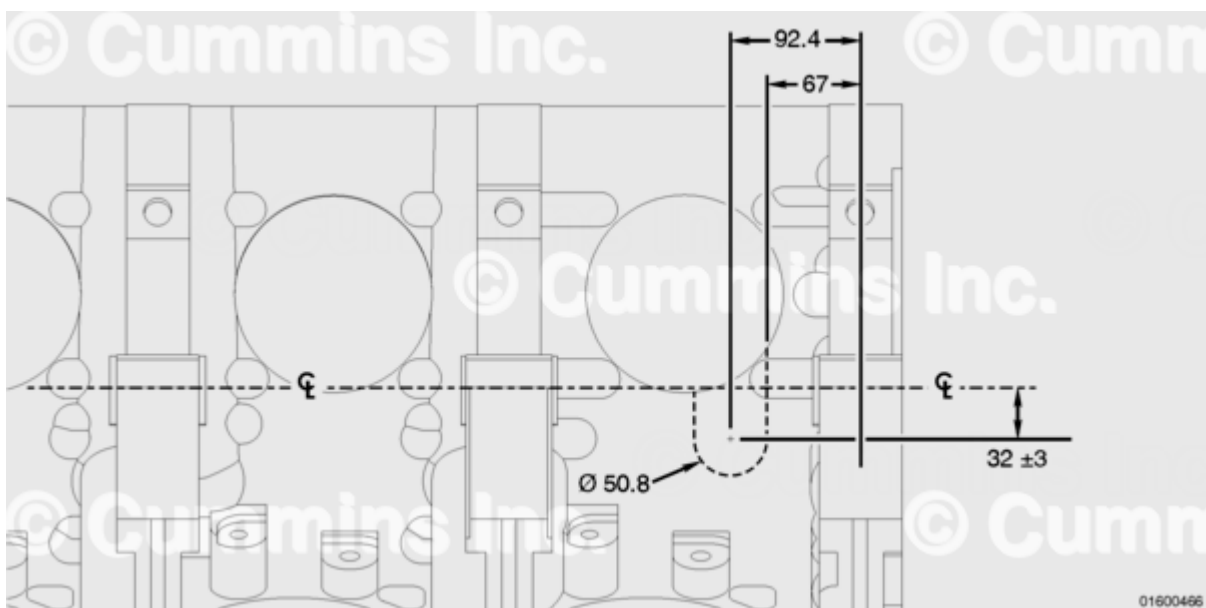

Figure 12: Side Wall Machining Location
Side Wall Machining (See Figure 12 and 13)
- Figure 12 and Figure 13 show engineering drawings of machining details. Be sure to use a flat surface from which to set the machining depth.